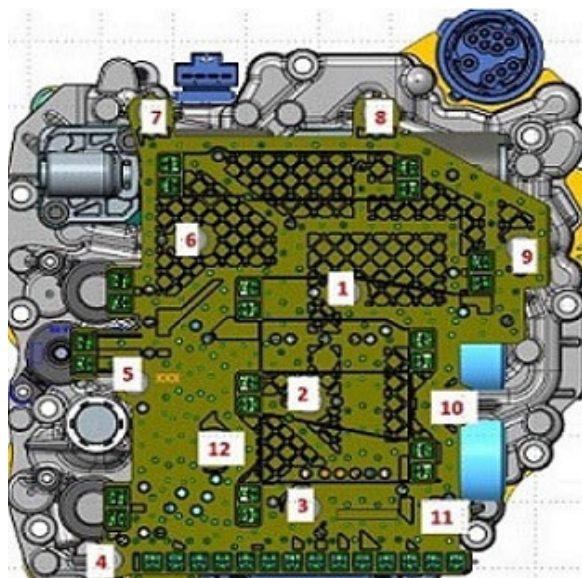
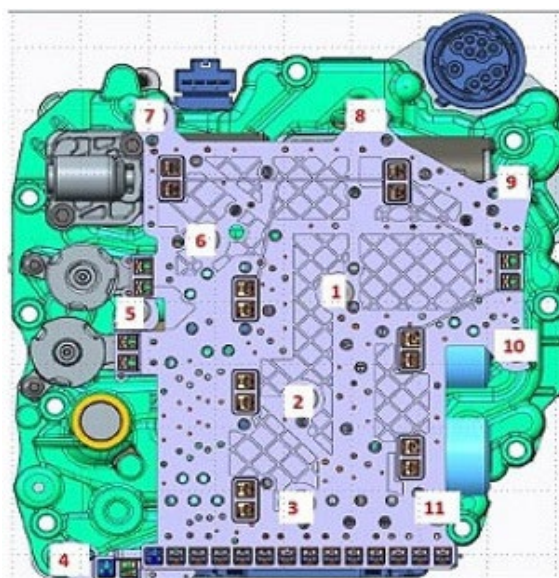

Figure 11: Contact plate bolts – OGC transmission.
Figure 12: Contact plate bolts ODL transmission.
- 16.** The contact plate must be detached from the mechatronic unit. To do so, loosen and remove the bolts (Figure 11 - 0GC Transmission or Figure 12 - 0DL Transmission).